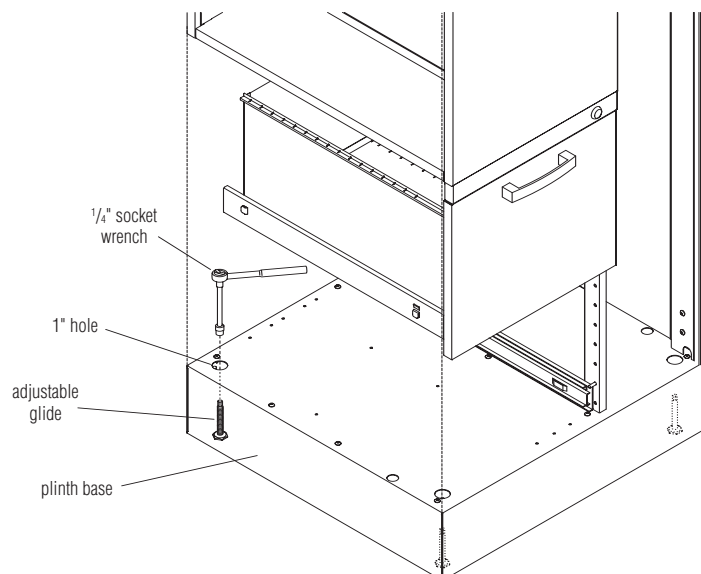

Figure 9
1. To gain access to the adjustable glides, remove the bottom drawer or open the wardrobe door if so equipped (Figure 9).
2. Locate the four 1" diameter holes inside the cabinet, at the four corners of the base. Using a socket wrench with an extension and  $\frac{1}{4}$ " socket, level the cabinet as needed (Figure 9).